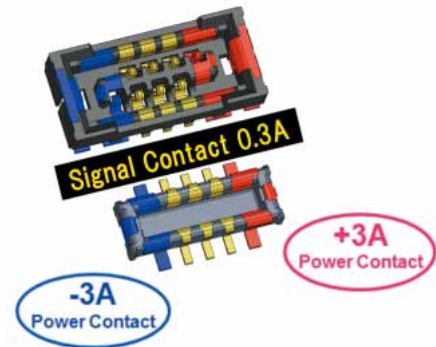

Fig.2
2. Equipped with power contacts capable of handling up to 3A current. (Fig.2)